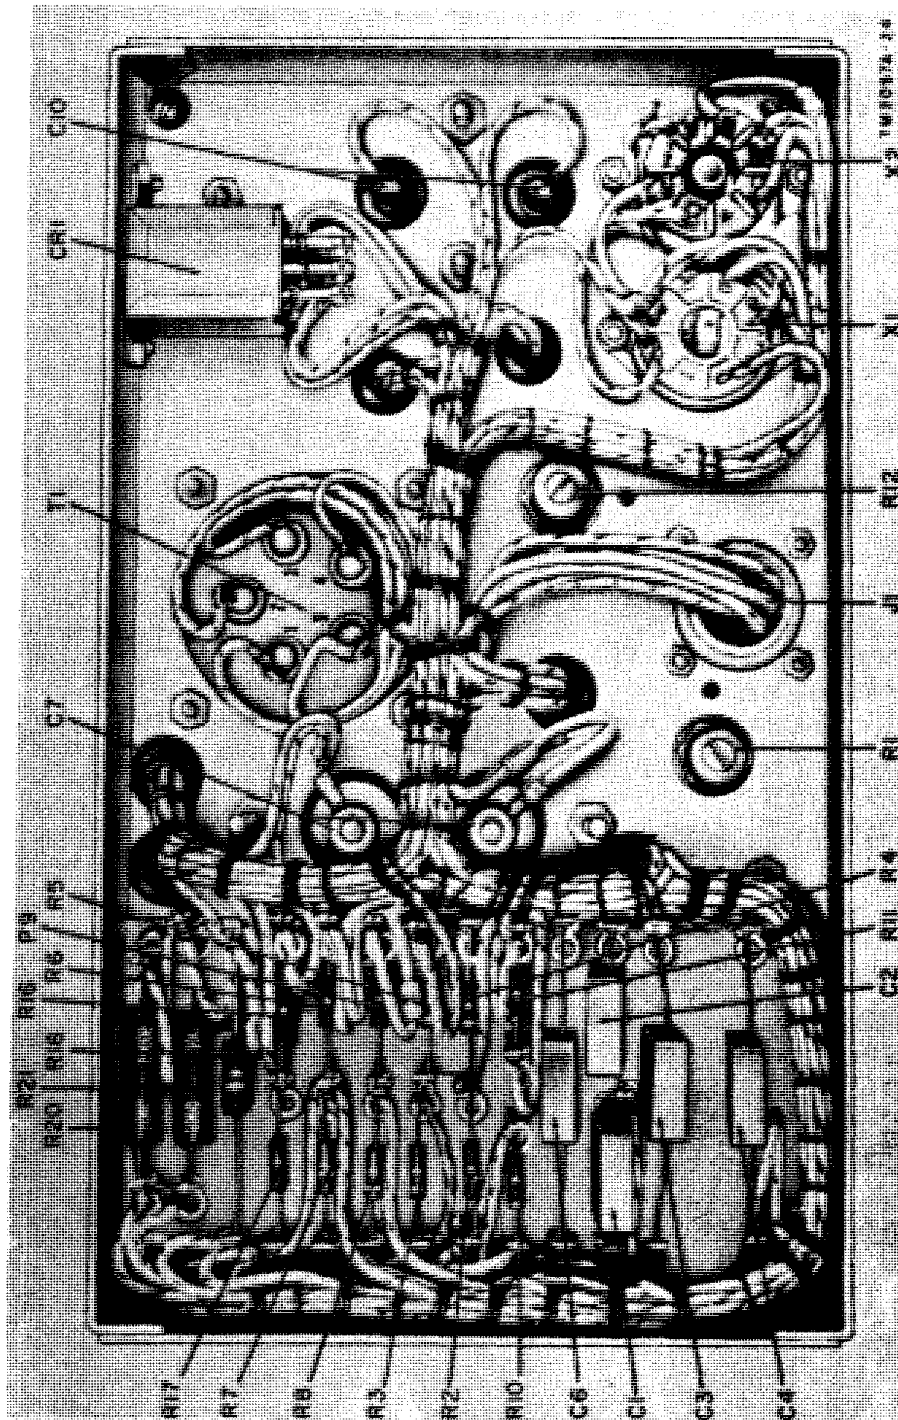

Figure 26. Test Set TS-27B/TSM, bottom view of chassis.
h. TRANSFORMER T1. Remove the chassis from the case (par. 41), and remove the instrument panel from the chassis (subpar. b above). Disconnect the lead from the transformer terminals, on the bottom of the chassis (fig. 26). Loosen the four mounting nuts on the bottom of
i. CAPACITOR C7. Remove the chassis from the case (par. 41). Remove the instrument panel from the chassis (subpar. h above). Disconnect the leads from the capacitor terminals on the bottom of the chassis (fig. 26). Loosen and remove the two mounting nuts on the bottom of the chassis, lift the mounting brackets from the top of the chassis, and remove the capacitor. Install the new capacitor by reversing the removal procedures.
j. OTHER PARTS. Parts, such as resistors, varistors, capacitors, receptacles, etc., are readily replaced and require no special instructions. In some instances, for example in the case of variable resistors, one-hole mounting is used and it is necessary merely to loosen the hexagonal nut to remove the component. In other cases the part may be held in place by mounting screws and nuts. An examination of the part to be replaced will show the method to be followed in making the change. Figures 26 and 27 show the bottom and top of the chassis respectively. After installing new parts, check the circuit with the wiring diagram of figure 21.